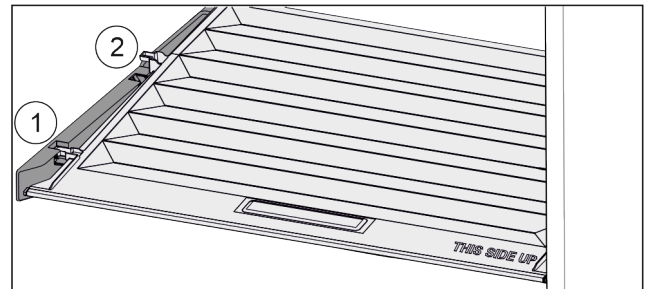

Fig. 108
- ▶ Pull the lid up at the front to the opening in the retaining parts Fig. 108 (1).
- ▶ Lift from the back and pull it up and out Fig. 108 (2).